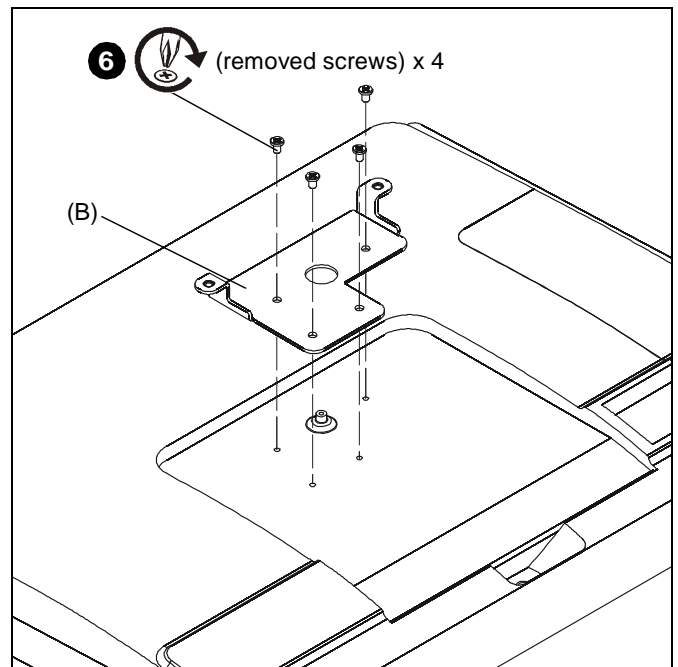

Figure 3
8. Attach adapter bracket (B) to back of display using four screws removed in Step 6. (See Figure 3)